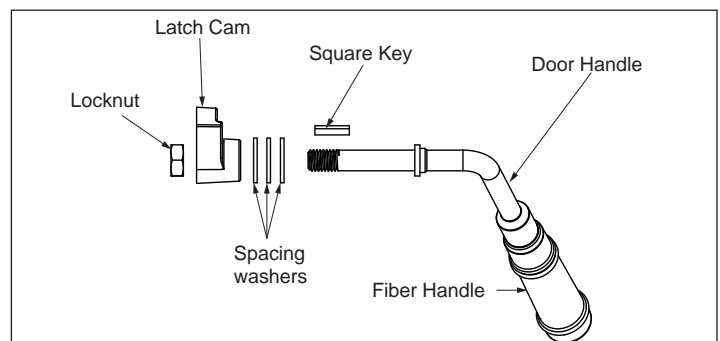

Figure 24.3 - Door Handle for Arched Door
3. Install second washer(s) as shown in **Figure 24.3.**
7. Install handle turning in a counter-clockwise motion to desired location on door handle rod. **Figure 24.3.**